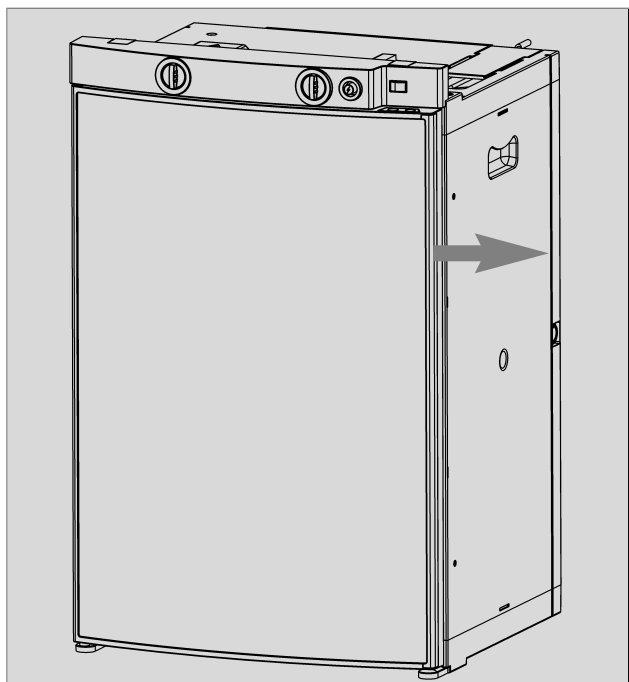

Fig. E7
**Dometic** Refrigerators of RM8xxx Series feature a groove running all around outside and bottom side to facilitate the insertion of such flexible lipped seals (see Figure E7).